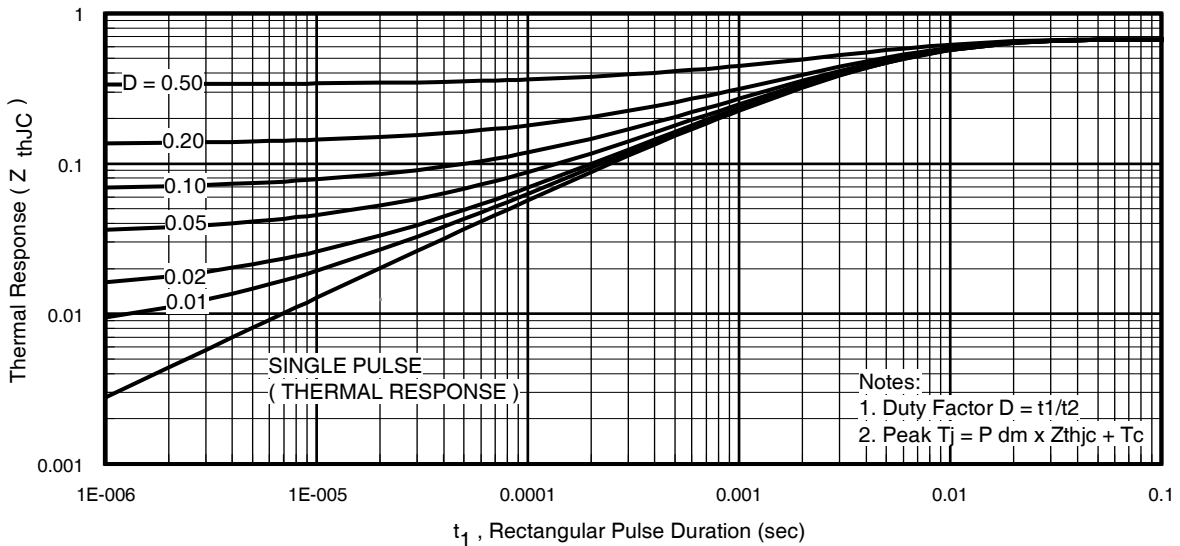

Fig 11. Maximum Effective Transient Thermal Impedance, Junction-to-Case
$Z_{thJC}(D, t_{av})$ = Transient thermal resistance, see figure 11)
- ① Repetitive rating; pulse width limited by max. junction temperature. (See fig. 11).
- ② Limited by T_{Jmax} , starting $T_J = 25^\circ C$, $L = 0.11mH$